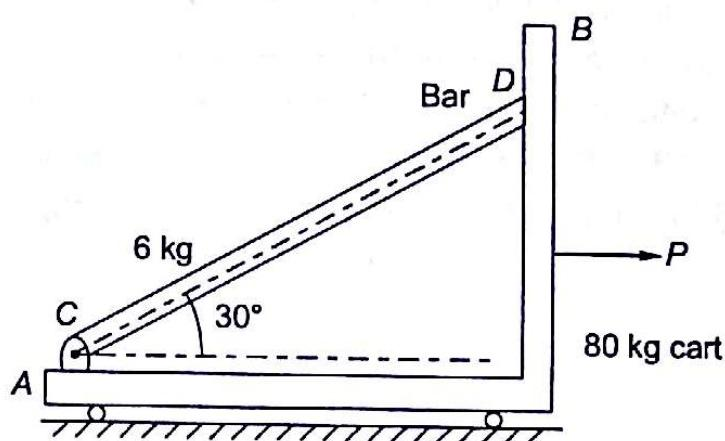

Fig. 15.19
15.3 A uniform rectangular block (0.5 m × 1.0 m and 40 kg mass) is placed on a rough inclined plane, $\mu = 0.2$ as shown in Fig. 15.19. Determine the maximum and